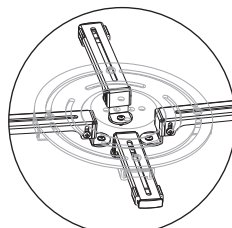

figure 14
3. Connect the installation arms to the projector conversely if the distance of installation holes is less than 120mm. Connect the installation arms (4-2) to the installation base (4-5) via sliding installation button (4-4) as figure 14